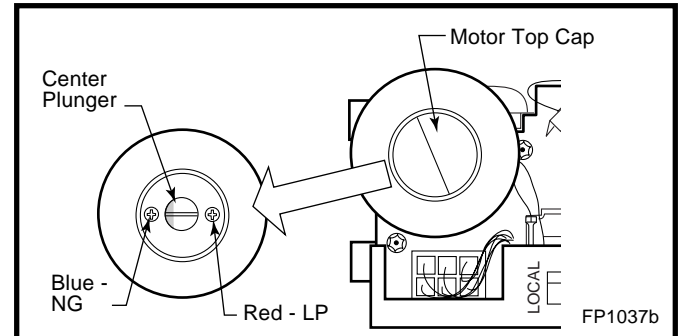

Fig. 64 Depress and turn center plunger.
4. Remove motor top cap. Depress and turn center plunger until arrow points to correct screw. Red for LP and Blue for NG. **NOTE:** Plunger will "snap" into NG position when arrow is close to blue screw. It will not "snap" at LP (Red) position. (Fig. 64)